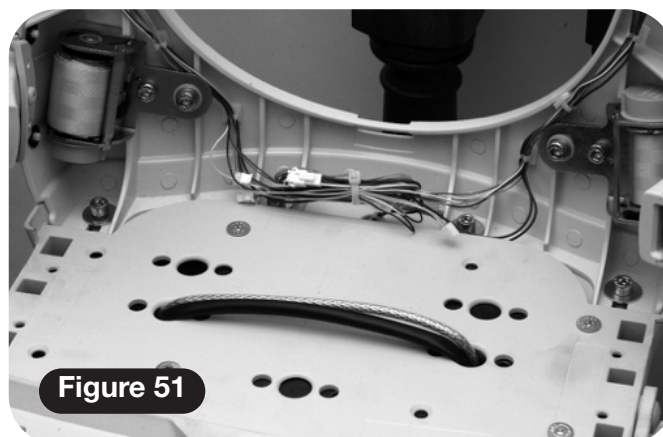

Figure 51
- 3 Tidy the cables to the back of the seat **(Figure 51)**.